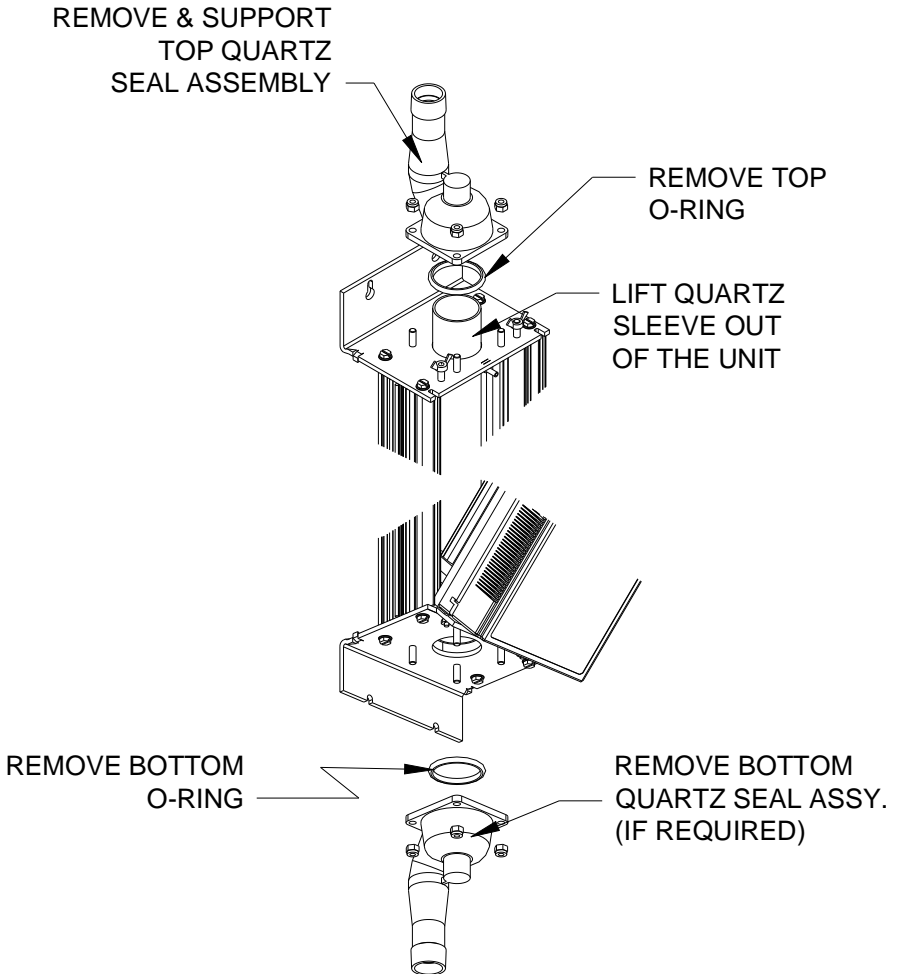

Figure 4C
Step 5: Remove the top quartz seal assembly (Figure 4C) by lifting it straight up.
Step 3: Once the quartz is clean, reassemble the system (see Figure 4C). During reassembly, replace any seals that appear to have been damaged.
Step 4: If the quartz is still not clean, it should be replaced. This is done by removing the bottom quartz seal assembly (see Figure 4C).